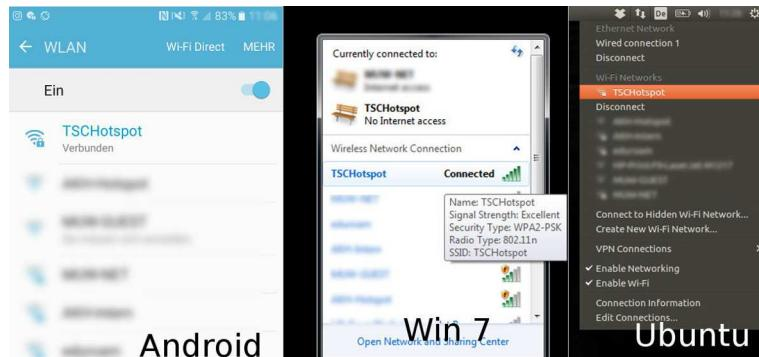

Figure 24: Various views of the autonomous **TSCHotspot** WLAN access point spawn by TSC.
- Select TSCHotspot as your WLAN access point (see also Sect. 5 and Fig. 24).
In addition, TSC also supports LX200 operation via WLAN – remember that TSC can open its own access point, and external devices such as laptops and tablets can connect to it. The default name for this autonomous WLAN access point is **TSCHotspot**. Fig 24 shows the looks of accessing TSC.